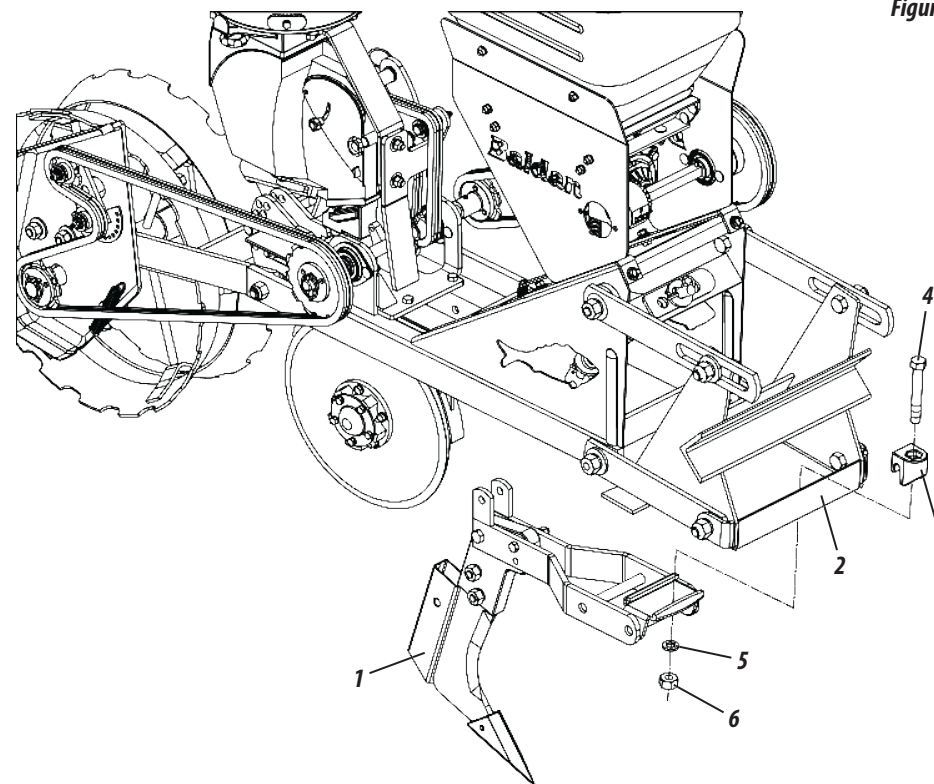

Figure 12
- The PLB Directa Air was developed for conventional tillage, but it also works in no-tillage system. To assemble the cutting disc (1) for no-tillage, proceed as follows:
01 - Attach the cutting disc (1) in the header (2), fixing it through the clamp Figure 12 (3), screws (4), washers (5) and nuts (6).
ASSEMBLING THE FURROWER - OPTIONAL (FIGURE 12)